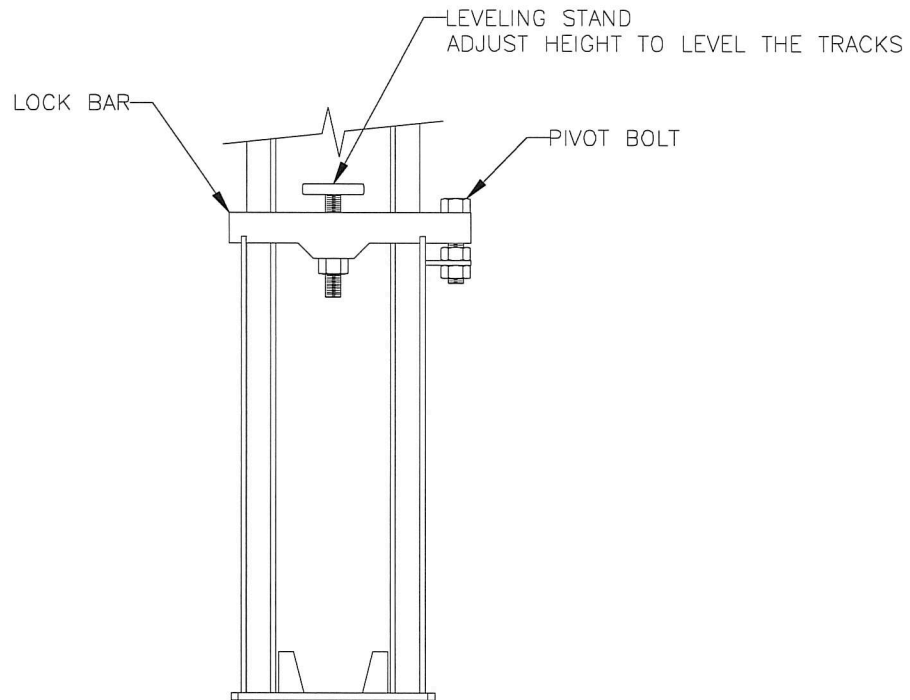

FIGURE 13. ALIGNMENT LIFT LEVELING SYSTEM
37. The Alignment lift has a leveling mechanism at each leg. Refer to Figure 13. Raise the lift above the stands and swing the lock bars underneath. Adjust the leveling stands so that the tracks are level when lowered onto the stands. Tighten the lock nuts on the stands.
1. The alignment lift has a leveling mechanism located at each leg. Refer to Figure 13. At installation adjust the leveling stand of each lock bar to level the alignment tracks. Tighten the lock nut on the stand to hold the adjustment. For alignments the lock bars are swung under the crossrails and the lift is lowered onto the stands.